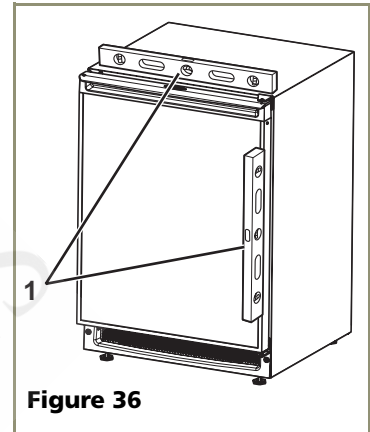

Figure 36
1. Use a level to check the levelness of the ice maker from front to back and from side to side. Level should be placed along top edge and side edge as shown (see **Figure 36**).